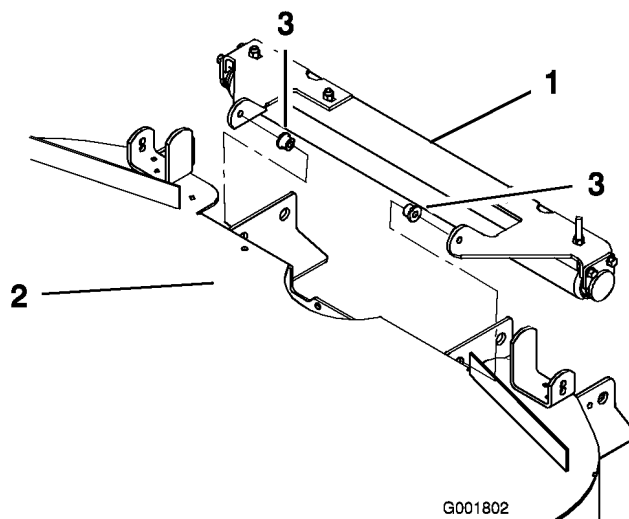

Figure 1
1. Insert a flange bushing into the front hole of each bracket on the back of the mower (Figure 1).
3. Place the roller assembly around the brackets and flange bushings at the rear of the mower (Figure 1)